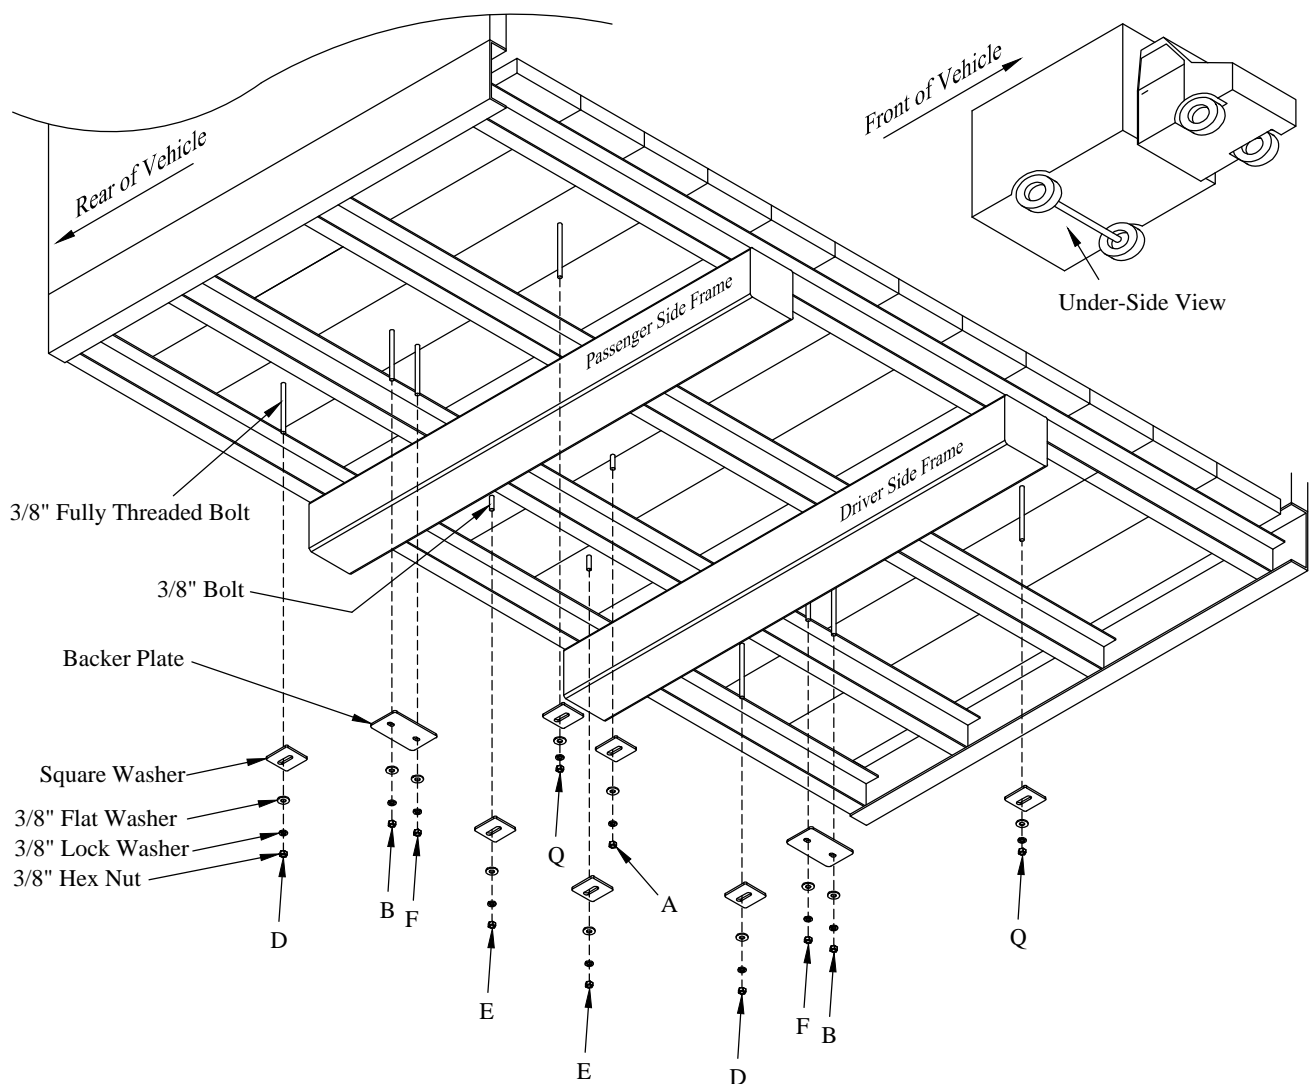
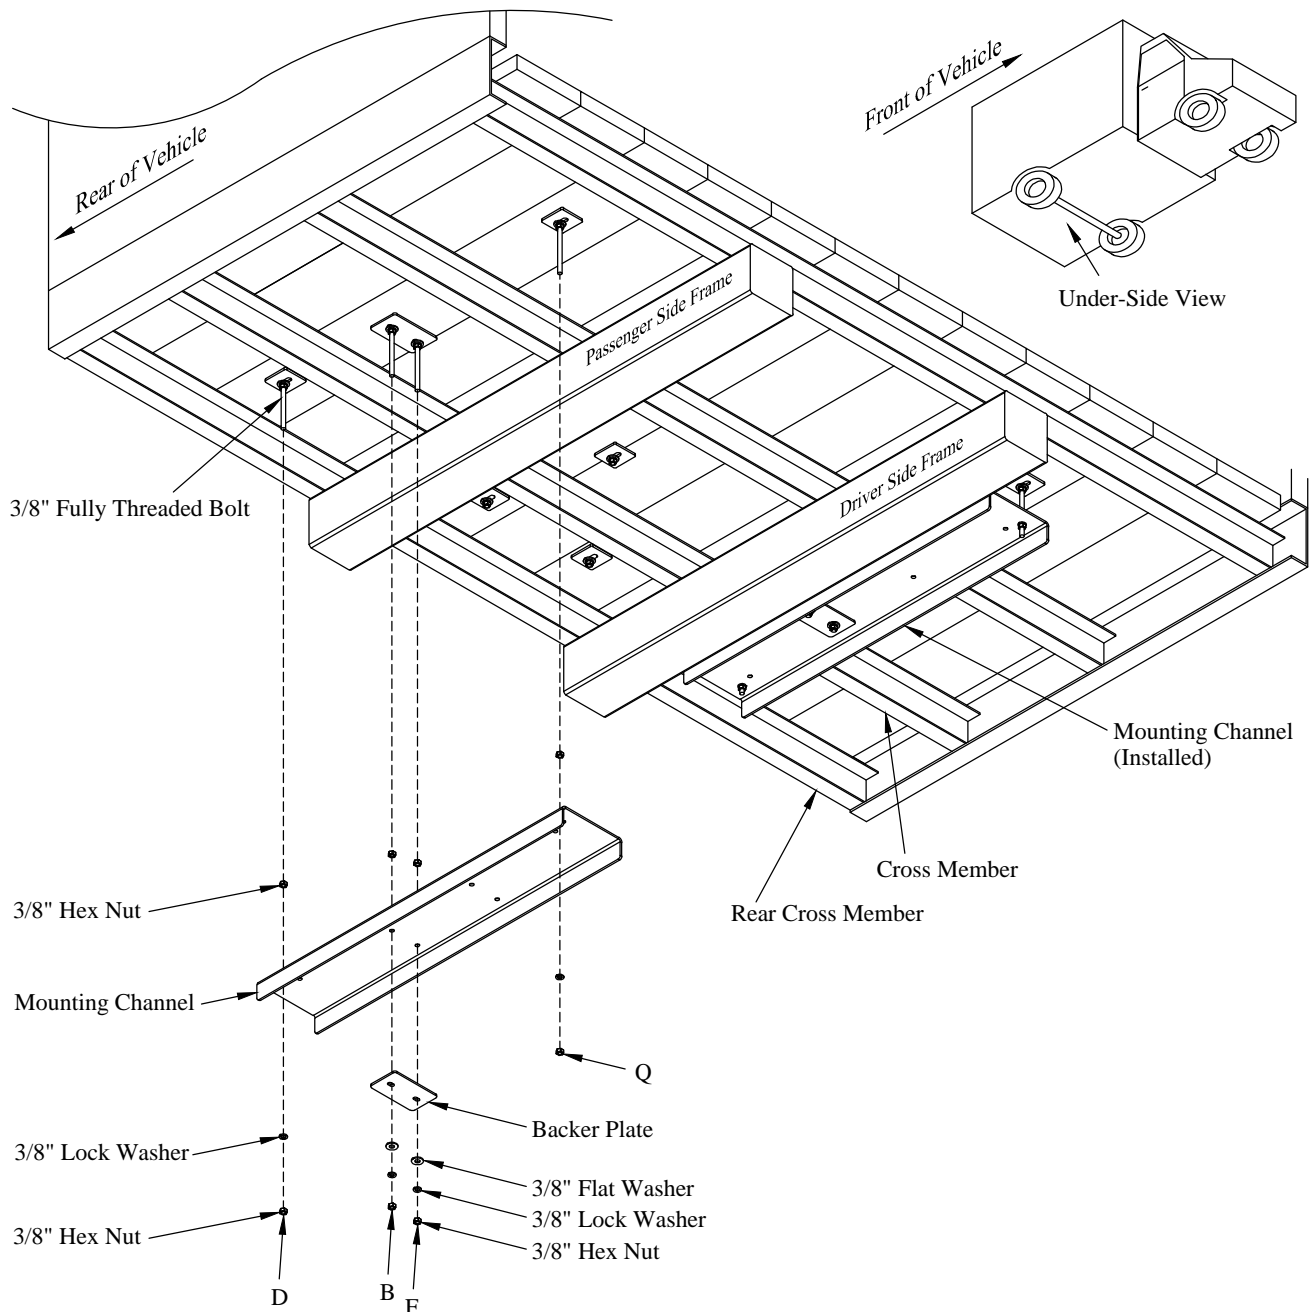

Figure 10: Under-side view of vehicle.
Figure 11: Under-side view of vehicle.
5. **Install** a square washer, 3/8" flat washer, lock washer, and hex nut on each of the "A" and "E" location bolts (Figure 10).
6. **Install** a square washer, 3/8" flat washer, lock washer, and hex nut on each of the "D" and "Q" location bolts (Figure 10).
7. **Install** a backer plate, 3/8" flat washers, lock washers, and hex nuts on each pair of "B" and "F" location bolts (Figure 10).
8. **Thread** an additional 3/8" hex nut onto each "B", "D", "F", and "Q" location bolts (Figure 11). Do not tighten at this time.
9. **Install** a mounting channel on each side using a backer plate, 3/8" flat washers, lock washers, and hex nuts on the "B" and "F" location bolts (Figure 11). Do not tighten at this time.
10. **Install** a 3/8" lock washer and hex nut on "D" and "Q" location bolts (Figure 11). Do not tighten at this time.
11. **Tighten** the bottom nuts at positions "A", "B", "D", "E", "F", and "Q" in an alternating pattern (Figure 10) and (Figure 11). Be sure not to over-tighten the nuts and warp the base plate.